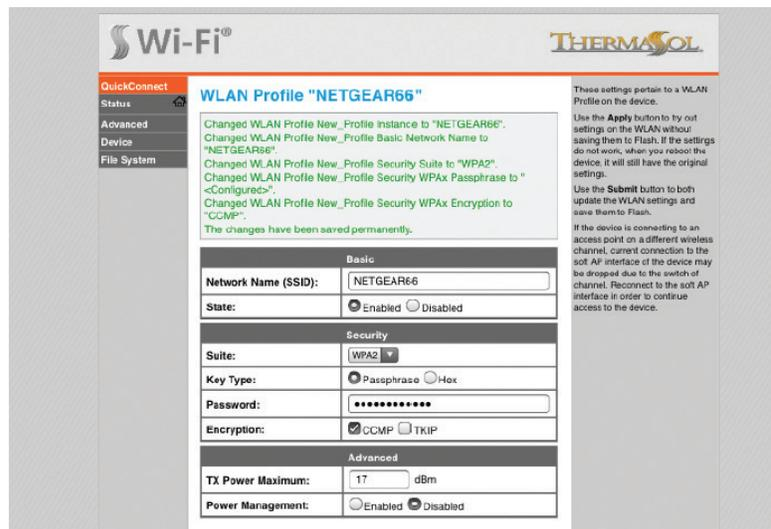

Figure 22: Successful local WLAN Wi-Fi access point connection
7. Once connection is complete the configuration web page will reflect the changes as shown below in Figure 22, and the WLAN LINK indicator light on the front of the SWM-2 will become lit green